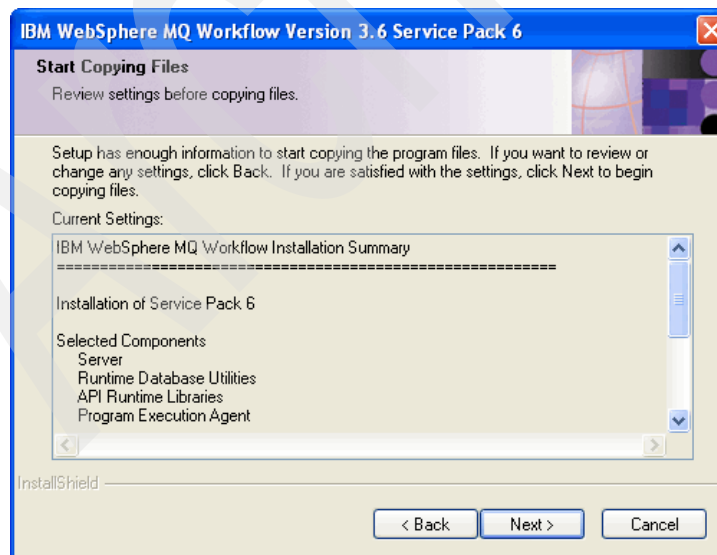

Figure 8-7 WebSphere MQ Workflow ServicePack 6 summary page
4. In the Start Copying Files window (Figure 8-7), click **Next**.